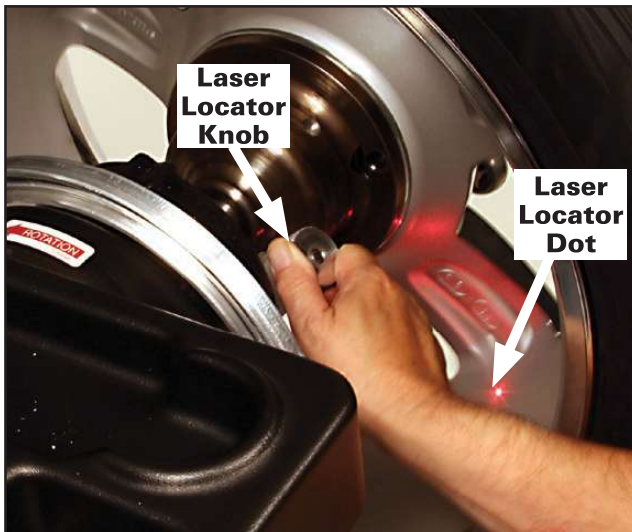

Figure 8 - Positioning Laser Dot At T2 - Tape Hidden Weight Location (A2)
If the T2 - Tape (hidden Tape-A-Weight®) location is selected, use the laser locator to point to the hidden weight location (figures 8 & 7B). Rotate laser locator knob to position the laser dot outboard at the desired T2-Tape (hidden Tape-A-Weight®) location.
If the T2 - Tape (hidden Tape-A-Weight®) location is selected, use the line laser to align the offset arm with the laser locator dot (figures 8 & 7B); entering A2 & D2 measurements automatically. Grasp arm at the line laser and pull out and up to the wheel flange (figure 6B). Hold arm still at the clip-on weight location and wait for BEEP. Then, before returning arm to home position, press button on line laser to activate the line laser beam. Move arm to inner area of wheel and align line laser beam with laser locator dot (figure 8). Hold arm still, up against the rim, in the same plane as the T2-Tape (hidden Tape-A-Weight®) location (figure 7A & 7B) and wait for BEEP. Refer to figure 9.
**3.** Rotate the laser locator knob to position the laser locator dot at the desired weight location. See figures 8 & 7B.